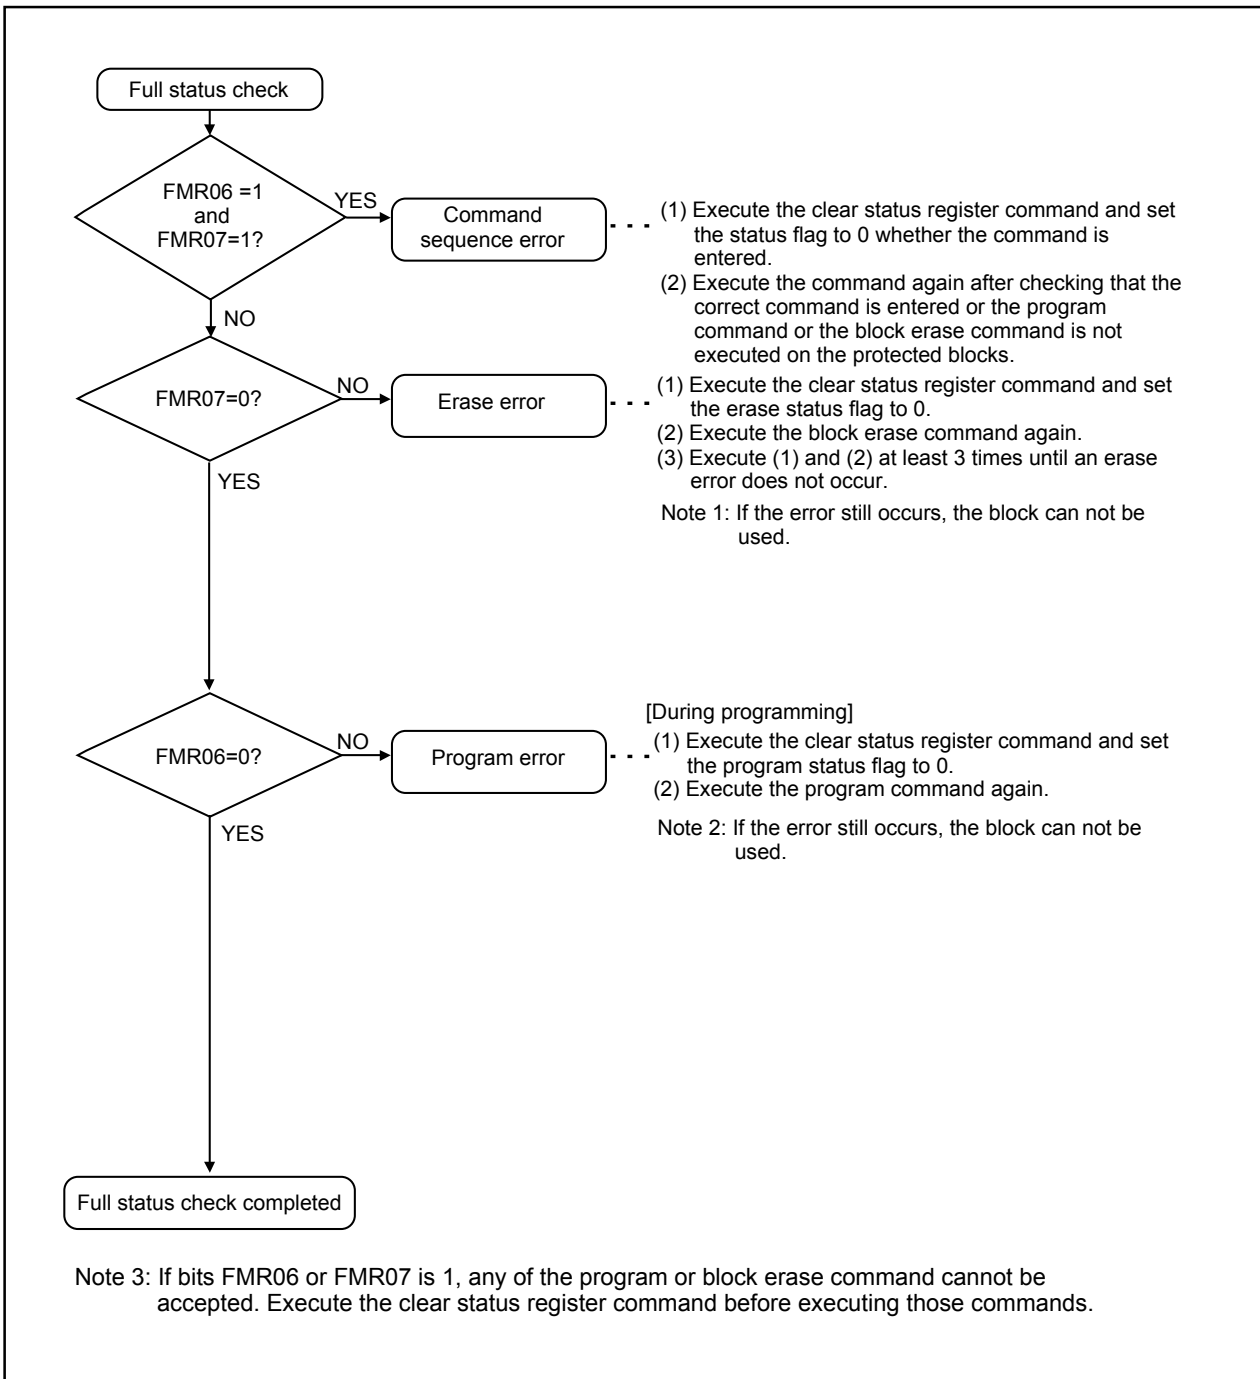

Figure 19.13 Full Status Check and Handling Procedure for Each Error
**Table 19.7** lists errors and FMR0 register state. **Figure 19.13** shows a flow chart of the full status check and handling procedure for each error.